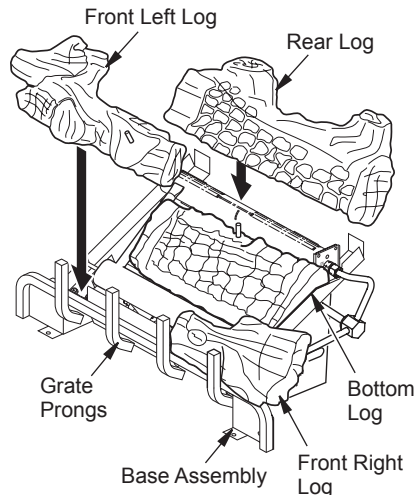

Figure 21 - Installing Bottom Logs
1. Place bottom log in center of the base assembly as shown in Figure 21.
2. Rest rear log in back corner sections of base assembly as shown in Figure 21. Make sure log is completely vertical and not leaning in toward burner where the flame will touch the log.
3. Position front right log against right side of grate prongs (see Figure 21).
4. Position front left log against left side of grate prongs (see Figure 21).